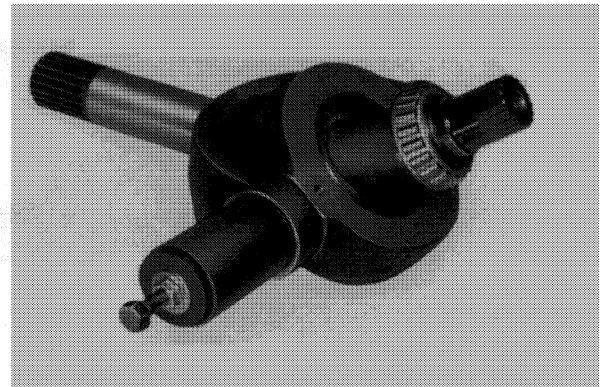

FIGURE 13
4. Place the pipe over the pin, placing the washers over the end of the pipe. Thread the 5/16" all thread bolt into the pin and tighten the nut to pull the pin out, as shown in Figure 13.